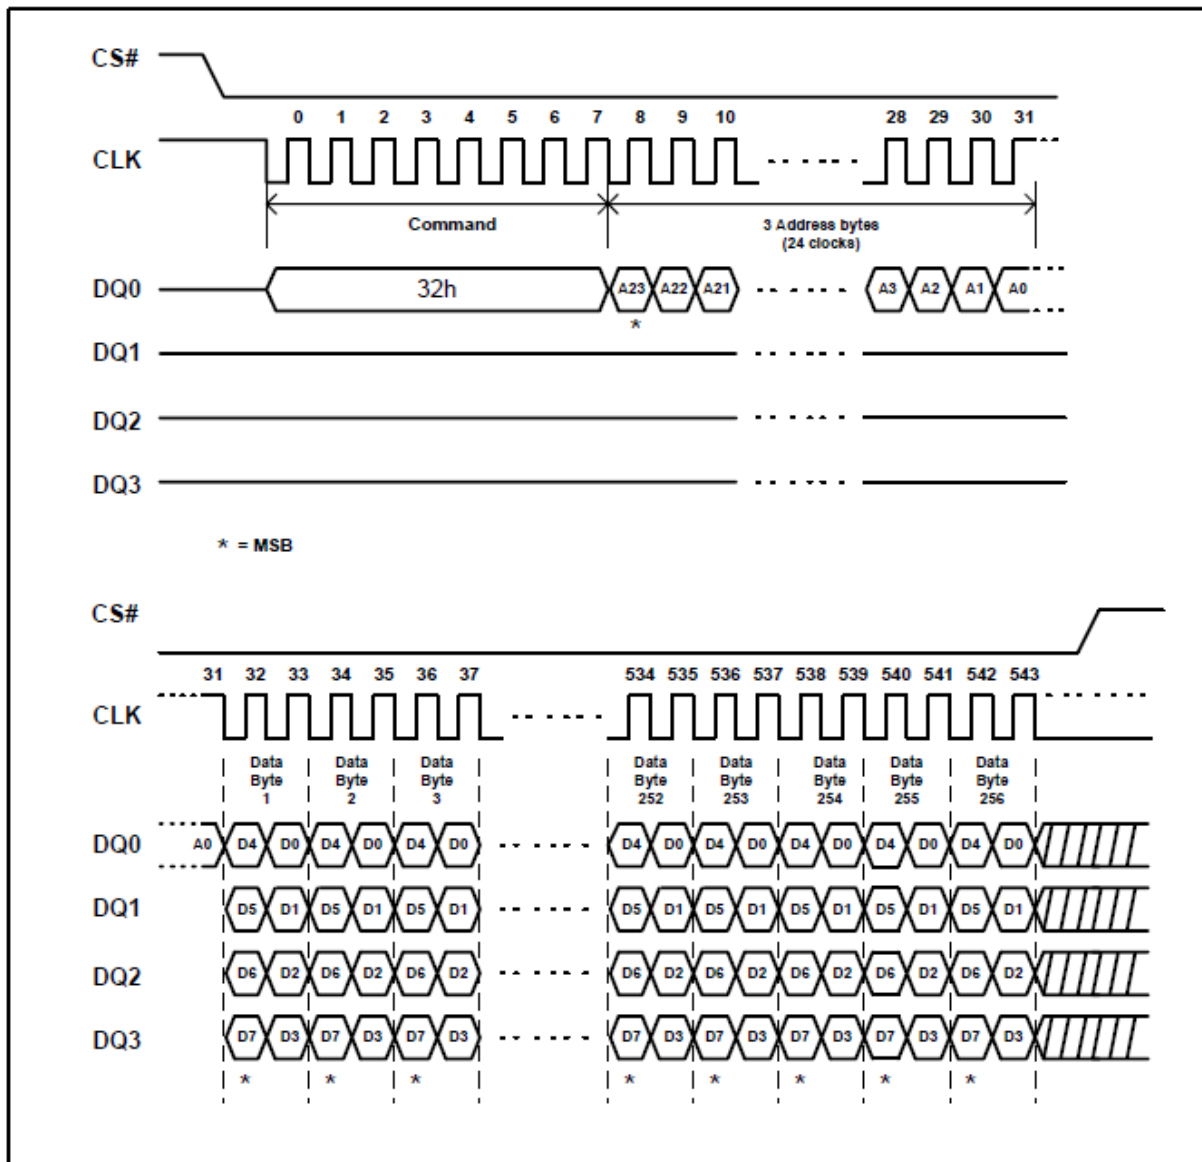

Figure 30. Quad Input Page Program Instruction Sequence Diagram (SPI Mode only)
To use Quad Page Program (QPP) the WP# and HOLD# Disable (QE) bit in Status Register must be set to 1. A Write Enable instruction must be executed before the device will accept the Quad Page Program (QPP) instruction (SR.1, WEL=1). The instruction is initiated by driving the CS# pin low then shifting the instruction code "32h" followed by a 24-bit address (A23-A0) and at least one data byte, into the IO pins. The CS# pin must be held low for the entire length of the instruction while data is being sent to the device. All other functions of Quad Page Program (QPP) are identical to standard Page Program. The Quad Page Program (QPP) instruction sequence is shown in Figure 30.